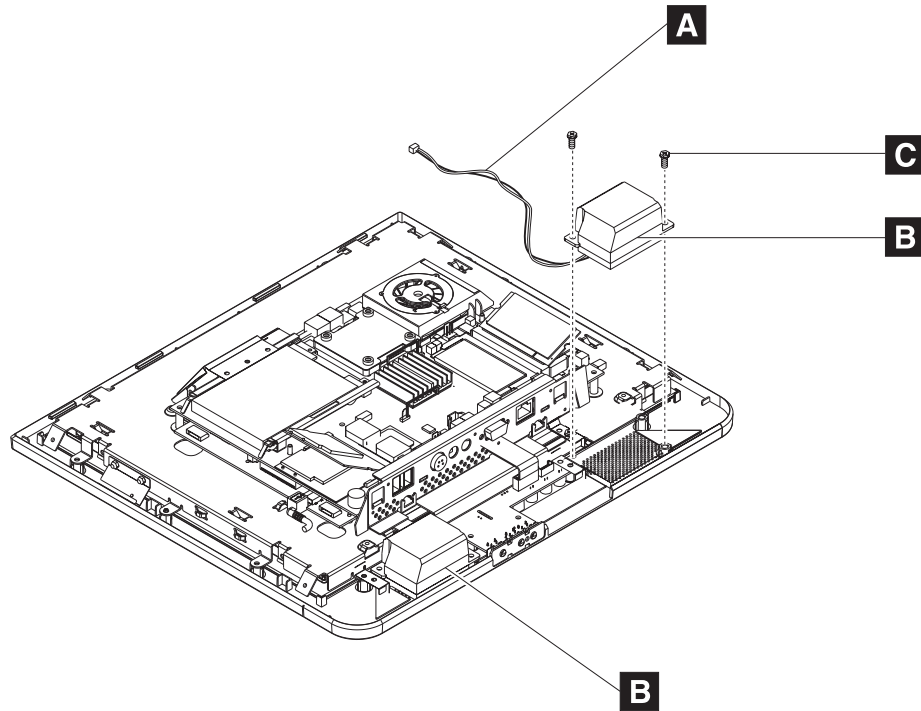

Figure 23. Removing the speakers
2. Detach each speaker cable (**A** in Figure 23) from the adjacent circuit board.
3. See Figure 23. Remove the two screws (**C**) that hold each speaker (**B**) and lift to remove.
- Speakers (see **B** in Figure 23 on page 39)